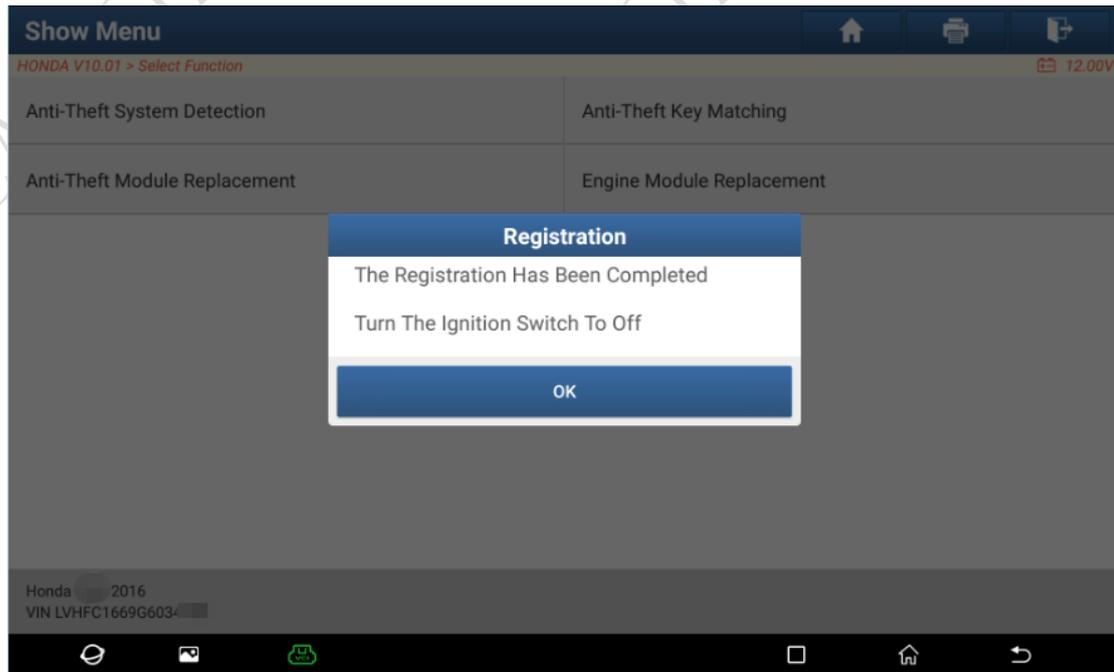

Figure 11
11. Registration completed, turn the ignition switch to OFF, as shown in Figure 11.